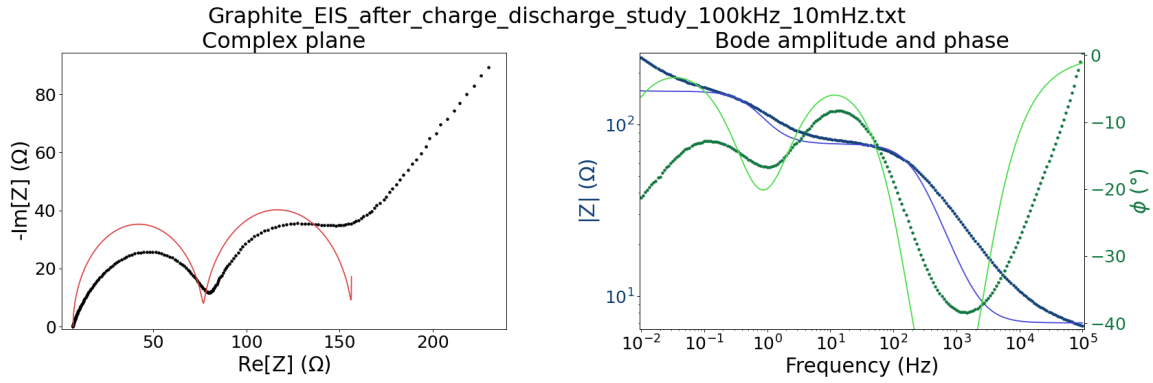

Figure 25: C||Li half-cell spectrum after tuning Q_2 .
- Q_2 can now also be adjusted with the slider for a rough fit of the intermediate-frequency semicircle. The result should look like Figure 25.